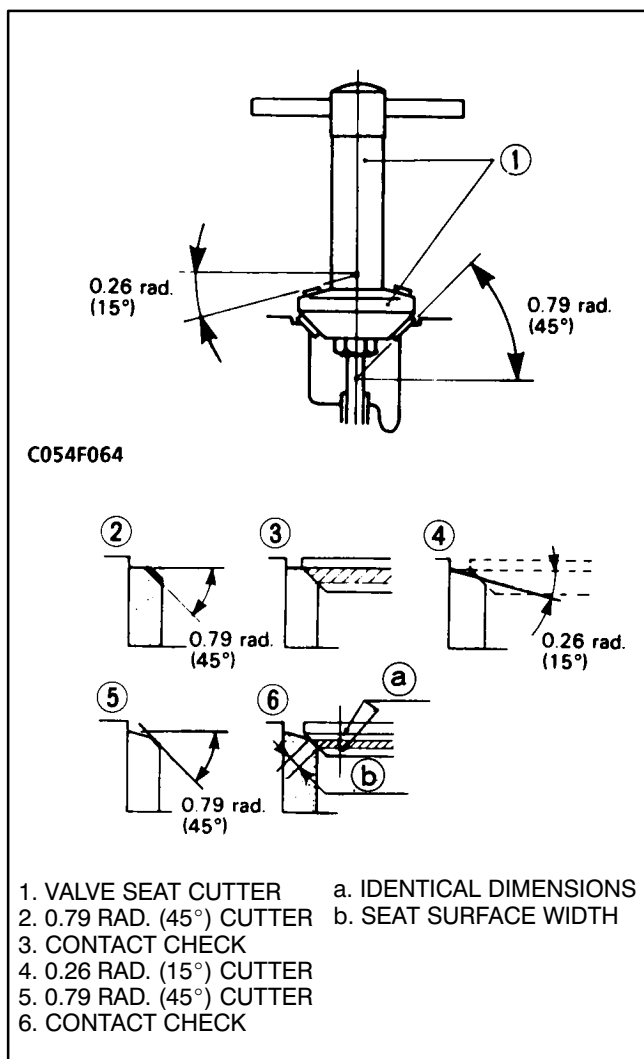

FIGURE 10-10. REGRINDING VALVE SEAT
2. Use a vernier caliper to measure the valve seat width (Figure 10-10). (See Section 3. *Dimensions and Clearances* for seat width allowable limit.)
1. Grind the valve seat surface with a 45° cutter. Use a cutter appropriate for the valve seat surface and valve guide diameter (Figure 10-10).